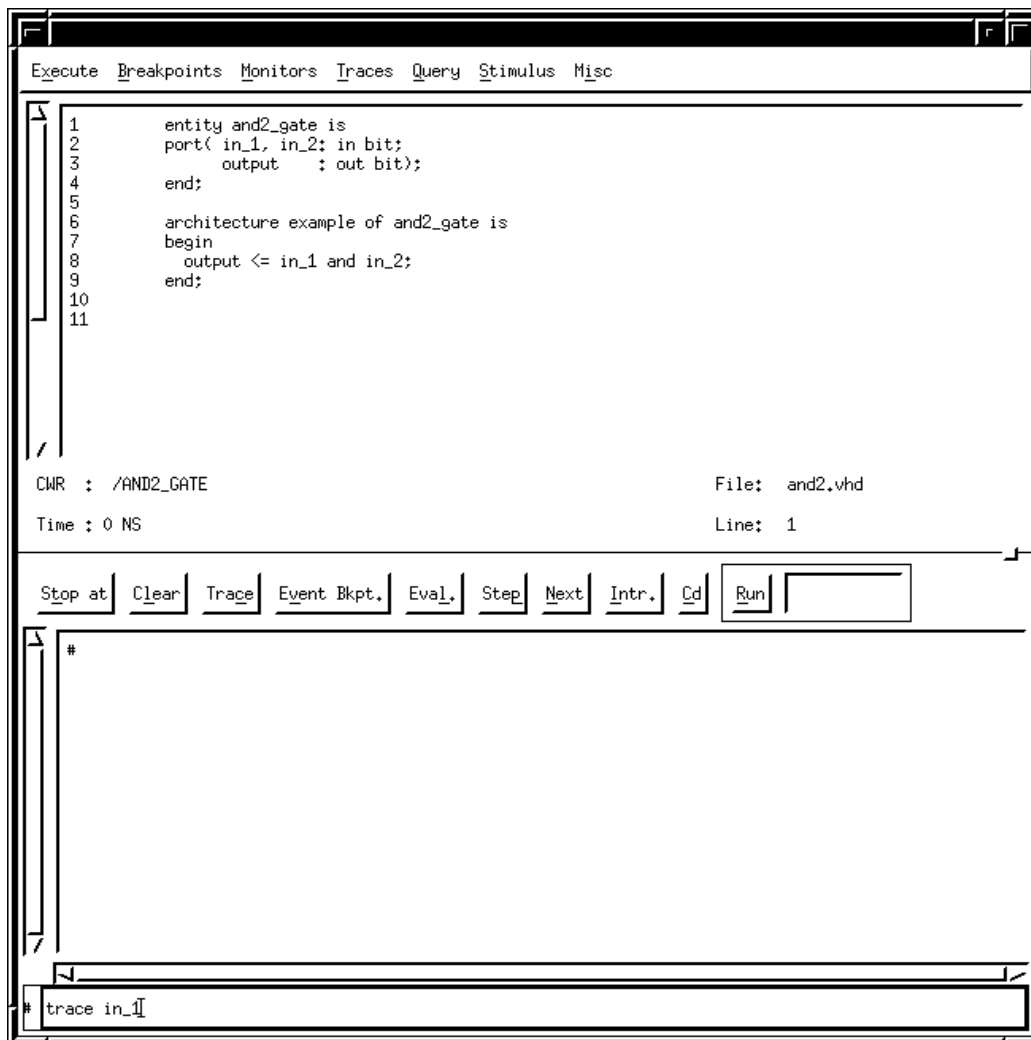

Figure 5: Issuing a trace command from the command window in VhdlDbx.
(5) One can manually assign values to signals using the **trace** and **assign** commands. The trace command will cause the signal which is to be traced to be listed in a waveform window. The assign command is used to set a signal to a certain value. For example, we wish to have the values of the three signals in\_1, in\_2, and output appear in the waveform window. To do so we would issue the following commands from the command window of the Debugger window (see Figure 5):